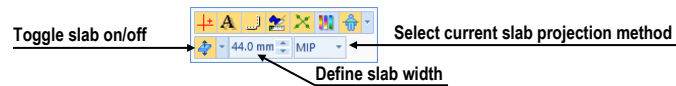

Figure 291 – Slab controls in view mini-toolbar
2. In the mini-toolbar displayed with view context menu (see Figure 291), the slab mode can be toggled on or off, the exact slab width can be set and the projection algorithm can be selected.